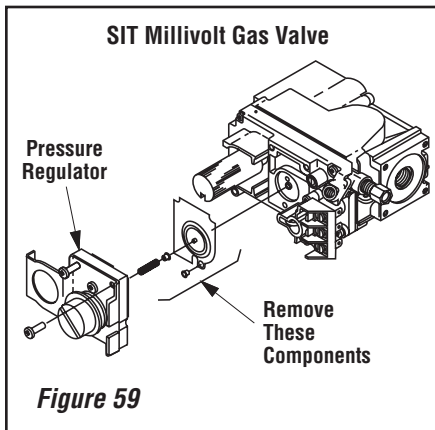

Figure 59
a. See **Figure 59** and the instructions provided with the kit. Using a Torx T20, tool or or standard flat screwdriver remove and discard the three pressure regulator mounting screws. Remove the pressure regulator, spring, poppet, diaphragm and bushing. Discard all removed components. Ensure the rubber gasket installed on the back of the replacement pressure regulator is properly positioned and install the new pressure regulator using the new screws supplied with the kit. Tighten screws to 25 In. lb. torque.